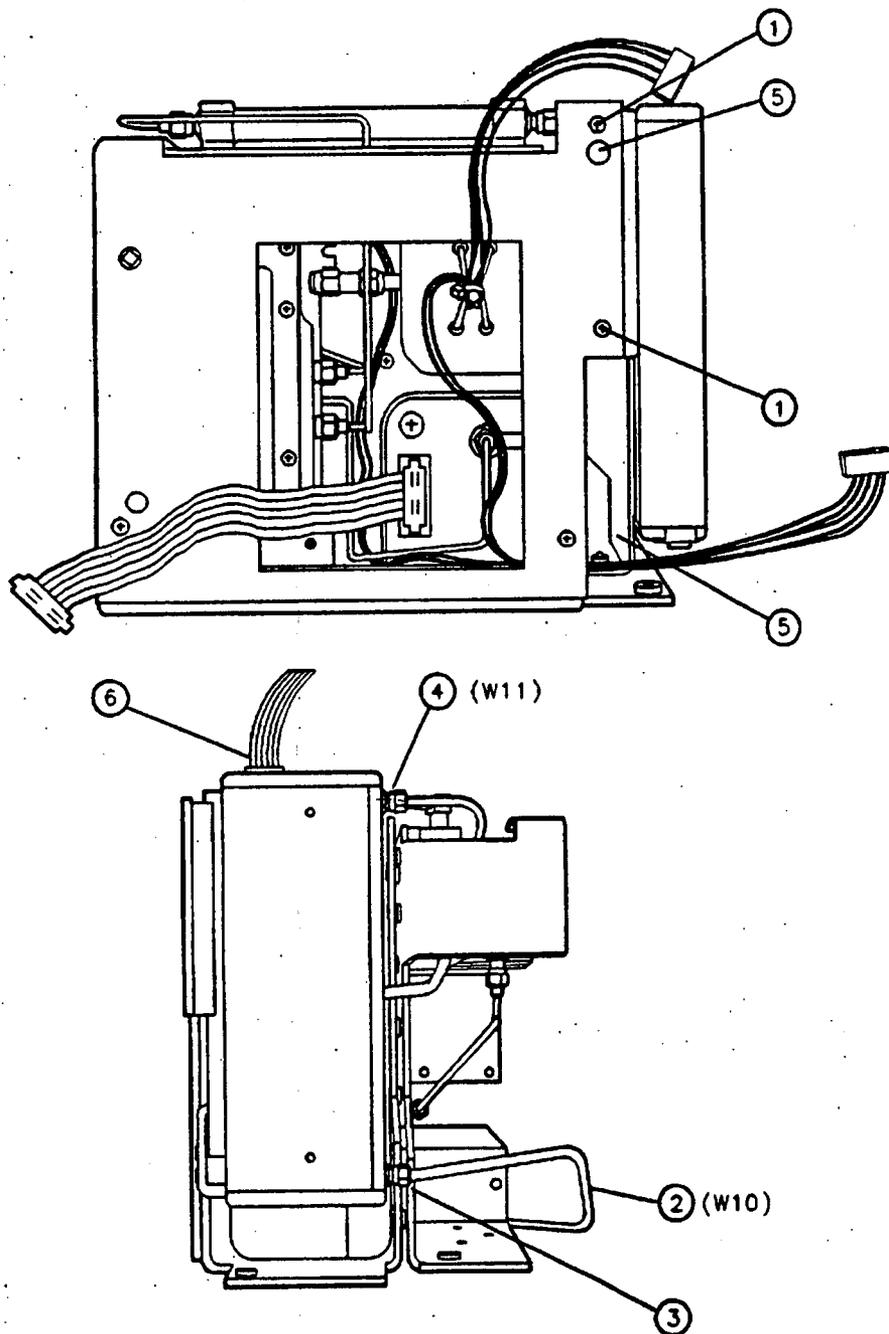

Figure 3-14. A3A5 Attenuator Replacement
5. Note the alignment of the W10 semirigid cable (2) to the left side of the front-end assembly. See Figure 3-14. (This information is used later, in the attenuator replacement procedure.)
6. Disconnect W10 (3) from the A3A5 Attenuator.
7. Disconnect the W11 semirigid cable (4) from the attenuator.
8. Hold the attenuator in place and remove the two screws (5) that secure the "C" bracket to the "A" bracket. The top screw is accessible through the hole in the "D" bracket.
10. Remove the W36 ribbon cable (6) from the attenuator.
2. Replace the W36 ribbon cable (6) on the attenuator. See Figure 3-14.
4. Replace the two screws (5) that secure the "C" bracket to the "A" bracket.
5. Connect the W11 semirigid cable (4) to the attenuator and tighten to 10 inch-pounds using a 5/16 inch torque wrench.
6. Connect the W10 semirigid cable (3) to the attenuator and position as noted in the attenuator removal procedure (2).
8. Replace the two screws (1) that secure the "C" bracket to the "D" bracket.